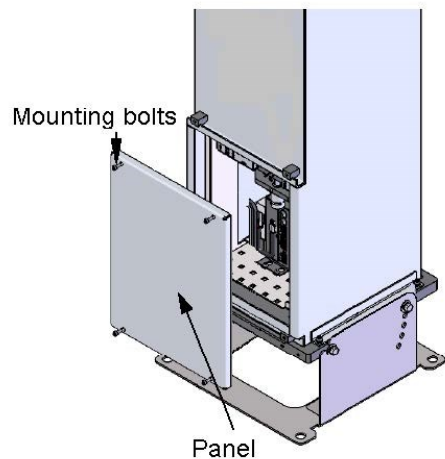

Figure 7-2. Removing the enclosure lid
1. Remove the four screws (Figure 7-2 [p. 110])